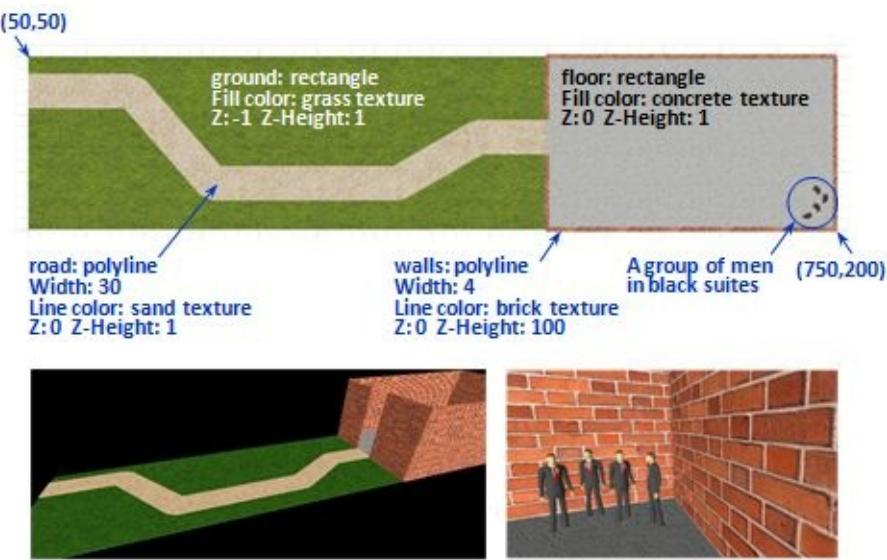

Figure 14.27 The 3D scene and its 3D view in the default light
12. Add a light of the **Spot** type, place it at the car windshield, and rotate it so that it looks forward (see Figure 14.27). Set the **Diffuse** color to *lightSteelBlue*. On the **Advanced** properties page, set **Z** to 10 and **Angle X** to 5.